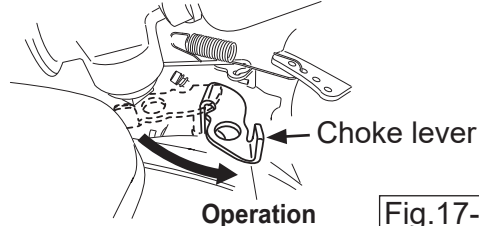

Fig.17-1
- 6 When the engine has started, return the speed control lever to the low speed position immediately. Listening to the sound of the explosion, return the choke lever gradually to the fully open condition. (Fig.17-1~4)